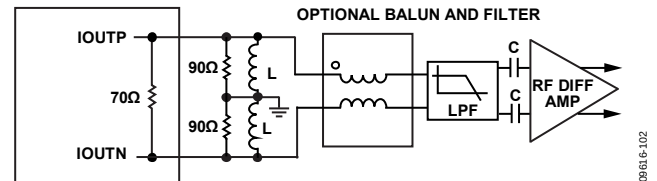
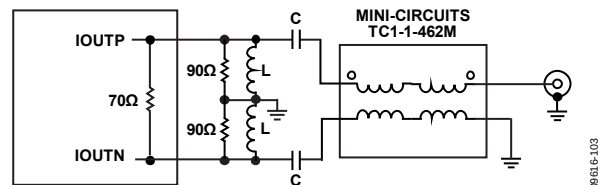
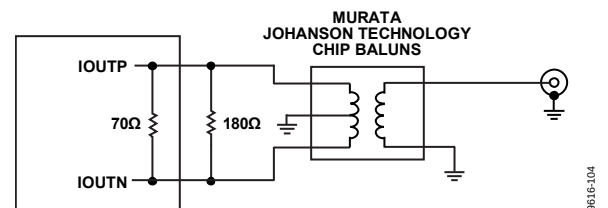

Figure 183. Interfacing the DAC Output to the Self-Biased Differential Gain Stage
Figure 184. Recommended Mix-Mode Configuration Offering Extended RF Bandwidth Using a TC1-1-43A+ Balun
Figure 185. Lowest Cost and Size Configuration for Narrow RF Band Operation
Figure 183 shows an interface that can be considered when interfacing the DAC output to a self-biased differential gain block. The inductors shown serve as RF chokes (L) that provide the dc bias path to analog ground. The value of the inductor, along with the dc blocking capacitors (C), determines the lower cutoff frequency of the composite pass-band response. An RF balun should also be considered before the RF differential gain stage and any filtering to ensure symmetrical common-mode impedance seen by the DAC output while suppressing any common mode noise, harmonics, and clock spurs prior to amplification.
For applications operating the AD9737A/AD9739A in mix-mode with output frequencies extending beyond 2.2 GHz, the circuits shown in Figure 184 should be considered. The circuit in Figure 184 uses a wideband balun with a configuration similar to the one shown in Figure 183 to provide a dc bias path for the DAC outputs. The circuit in Figure 185 takes advantage of ceramic chip baluns to provide a dc bias path for the DAC outputs while providing excellent amplitude/phase balance over a narrower RF band. These low cost, low insertion loss baluns are available for different popular RF bands and provide excellent amplitude/phase balance over their specified frequency range.